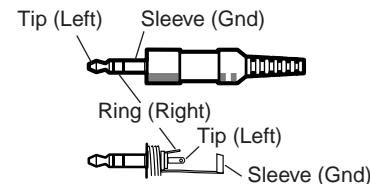

Figure 2-4 — Audio input connector wiring
- ② **Audio input (RGB 192 only)** — Connect the unbalanced stereo audio source (such as a computer or a CD player) to this 3.5 mm mini stereo jack for unbalanced audio input. Figure 2-4 shows how to wire the audio jack.